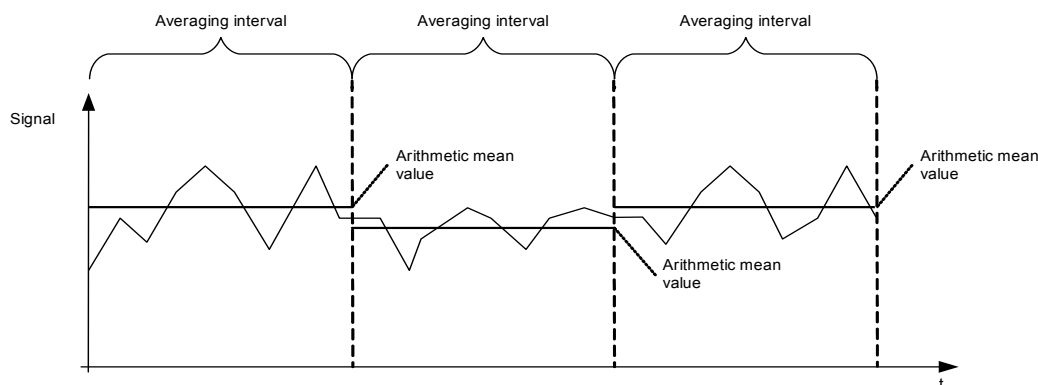

Figure 7-22 Calculating the arithmetic mean at the end of each averaging interval for CFR, CRR, CQR and CDR
- ❑ The CFR, CRR, CQR and CDR recorders calculate the arithmetic mean of the cycle-based measured values using the averaging interval (see figure 7-22).